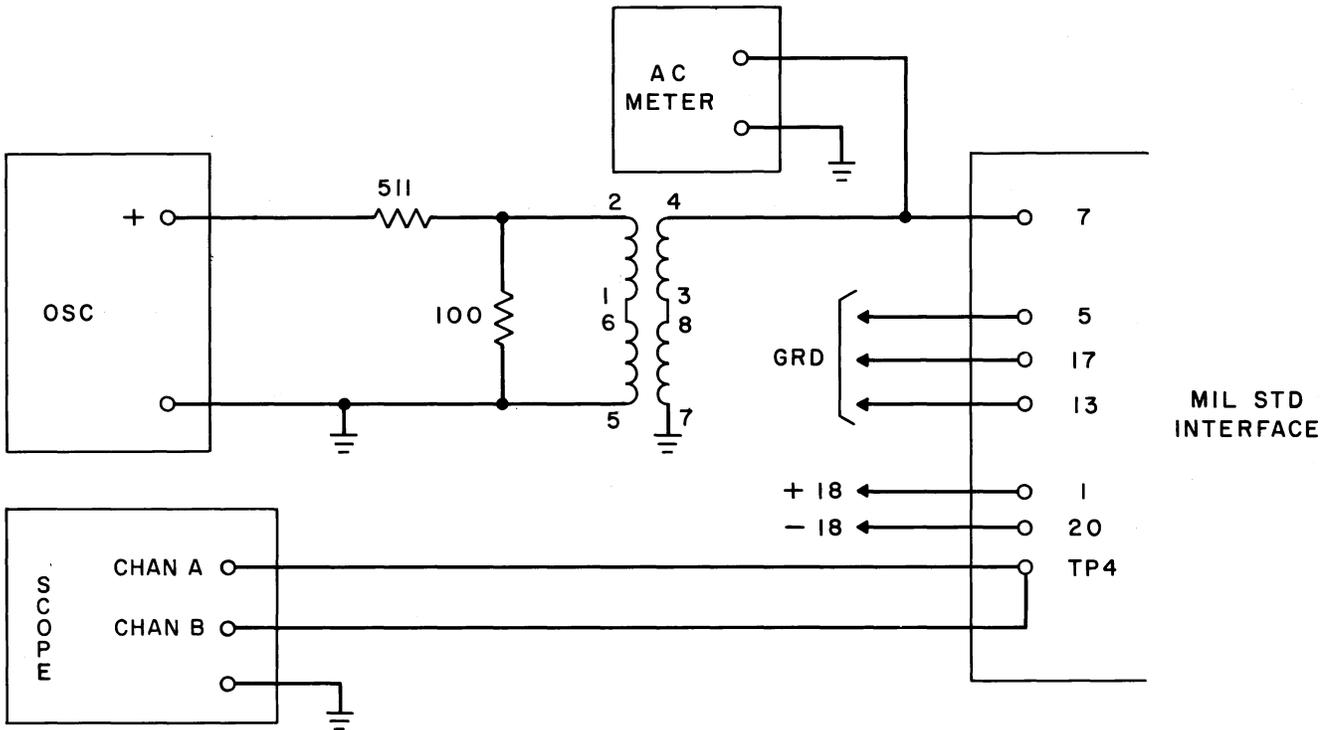
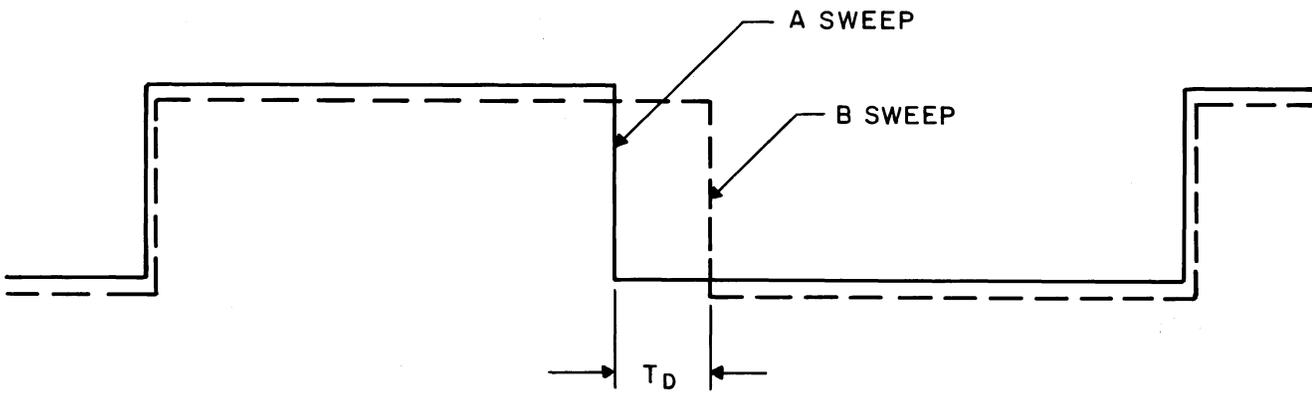

Fig. 49 - (MIL. STD 188 Interface Test)
Fig. 50 - (MIL. STD 188 Interface Test)
- (1) With the card connected as in the suggested test circuit shown in Fig. 49, connect +18.0 ± 0.5 volts dc to terminal 1, -18.0 ± 0.5 volts dc to terminal 20, and ground to terminals 5, 13, and 17.
- (2) Set the controls on the oscillator so that the input sine wave to terminal 7 is about 1.5 volts rms with a period of 200 ± 10.0 usec (5 kcps).
- (3) Make the following settings and connections on the scope:
- (4) Adjust the TIME BASE B STABILITY and TRIGGERING LEVEL controls to obtain a display of the wave form on test point 4. Overlay the CHAN A and CHAN B wave forms, as shown in Fig. 50, by adjusting the AMPLIFIER VERTICAL POSITION controls.
- (5) Adjust potentiometer R10 until the negative transition of the A sweep precedes the negative transition of the B sweep by approximately 20 usec.
- (6) Reduce the amplitude of input sine wave to 0.35 ± 0.01 volt rms.
- (7) Rotate potentiometer R10 clockwise until the negative transition of the A sweep precedes the negative transition of the B sweep by approximately 4 usec (ie, T_D approximately 4 usec, see Fig. 50).
- (8) Set the HORIZONTAL DISPLAY selector to the B-INTENSIFIED-BY-A position. Set the TIME BASE A TIME/CM selector to 1 usec.
- (9) Adjust the delay time multiplier until the intensified portion of the sweep overlays the negative transitions of the displayed wave forms.
- (10) Rotate the HORIZONTAL DISPLAY selector to the A-DELAYED-BY-B position.
- (11) Rotate R10 clockwise until T_D is less than 0.5 usec. Because of backlash, it is important that the final setting be made in the clockwise direction. If T_D is made greater than 0.5 usec by excessive clockwise rotation of R10, back off in the counterclockwise direction until T_D is approximately equal to 10 usec, then reduce T_D to less than 0.5 usec by rotating R10 in the clockwise direction.
- (12) Set the HORIZONTAL DISPLAY selector to the B position. Set the AMPLIFIER MODE switch to the A ONLY position. Reduce the amplitude of input sine wave on terminal 7 to 0.1 ± 0.005 volt rms. A square wave, with arbitrary duty cycle, should be observed at test point 4. No time base measurements need be taken.
- (13) After initial adjustment of R10 and upon subsequent tests of the MIL STD 188 interface card it shall not be required to adjust R10 if T_D is less than 4 usec.